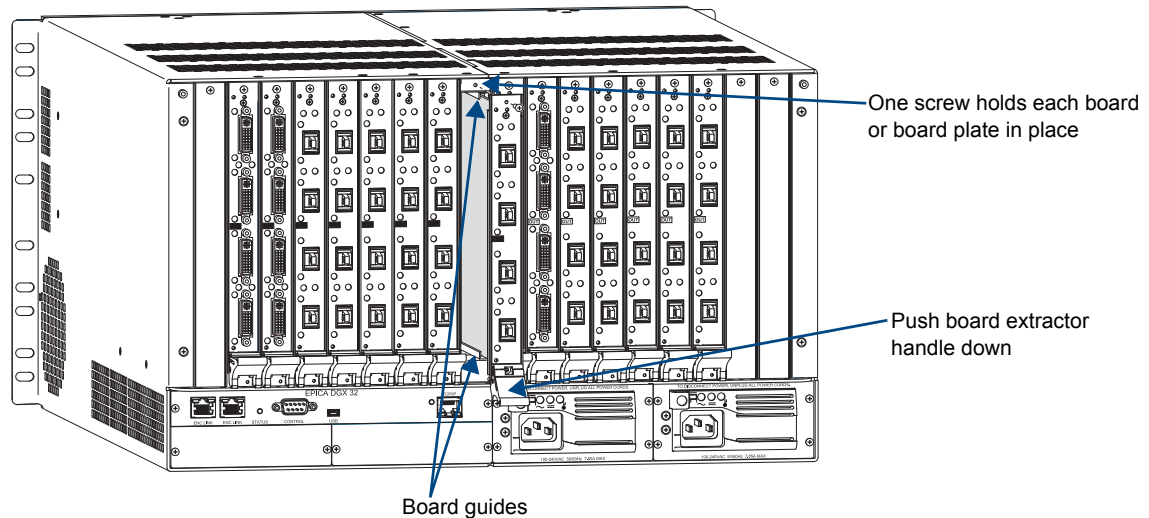
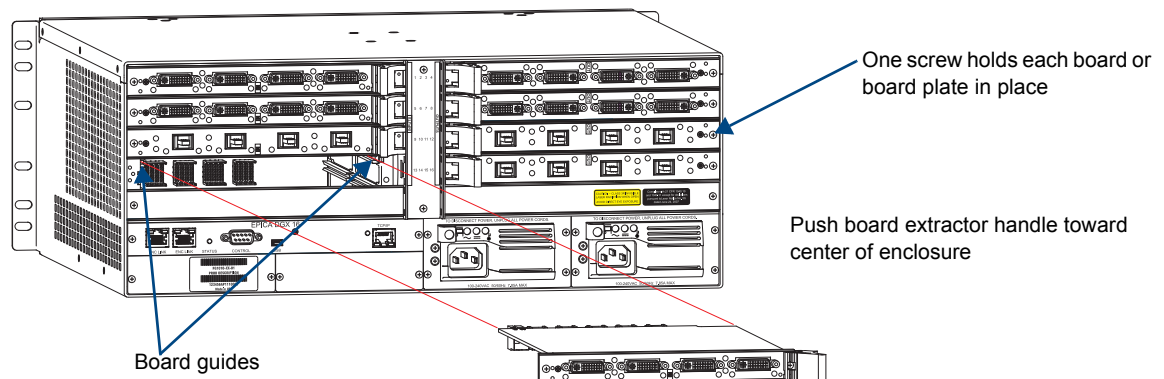

FIG. 71 Epica DGX 32 - Remove screw, push board extractor handle down, and then pull board straight out
FIG. 72 Epica DGX 16 - remove screw, push board extractor handle right (input) or left (output), pull board straight out
4. **Blank board plate** – Remove the screw that holds the board plate in place (for the Epica DGX 32, see FIG. 71; for the Epica DGX 16, see FIG. 72). Pull the plate out of the board slot opening (the tab on the end of the board plate fits in a slot near where the ejector handle would otherwise go). The plate consists of an aluminum sleeve with a black metal piece, which slides in and out of the sleeve.
Current board – Remove the pan head screw that holds the board in place (for the Epica DGX 32, see FIG. 71; for the Epica DGX 16, see FIG. 72). Push on the board's extractor handle as far as it will go (about a 45° angle). With the handle extended, carefully pull the board straight out of the board slot. Place the board in an ESD approved static shield bag and set aside.
5. **New board for an Epica DGX 32** – With the board's extractor handle in the extended (unlocked) position, line up the board's edges on the board guides that are along the top and bottom of the board slot (FIG. 71).
New board for an Epica DGX 16 – With the board's extractor handle in the extended (unlocked) position, line up the board's edges on the board guides that are along the left and right of the board slot (FIG. 72). Note that Input boards have board guides at the top of the slot and board guides for the Output boards are at the bottom of the slot due to their reversed orientation in the enclosure.